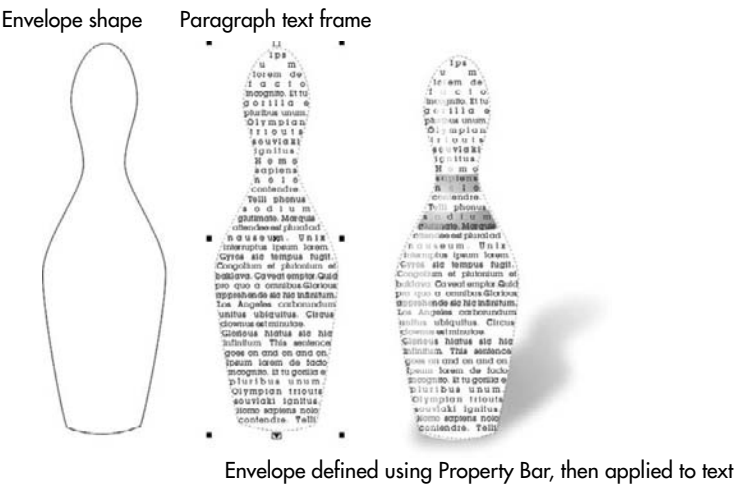

FIGURE 20-6 This Paragraph Text object frame was reshaped using an Envelope effect.
- **Text** This option becomes available as the only mapping option when a Paragraph Text object frame is selected. Text mode applies an envelope to the *frame* properties of a Paragraph Text object; the actual text and line of text are not distorted; see Figure 20-6.